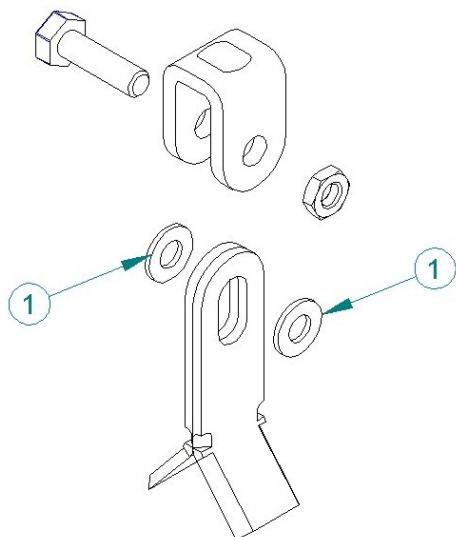
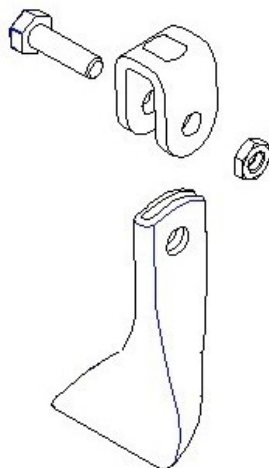

Fig. 19
Fig. 19A
In caso di sostituzione dei coltelli a "Y" (Fig. 19) con coltelli a "PALETTA" (Fig. 19 A) non montare le rondelle (pos. 1).
When replacing the knives, carefully check also the wear of the screws and if necessary replace them (See Fig. 19) with new original ones.
In case of "Y" flails change (fig. 19) to "Paddle Flails" (fig. 19A) do not assemble it with washer (Pos.1)
! Beim Tausch der "Y-Messer" (Fig. 19) gegen "Bechermesser" (Fig. 19a) sind beim Zusammenbau keine Beilagscheiben zu montieren!